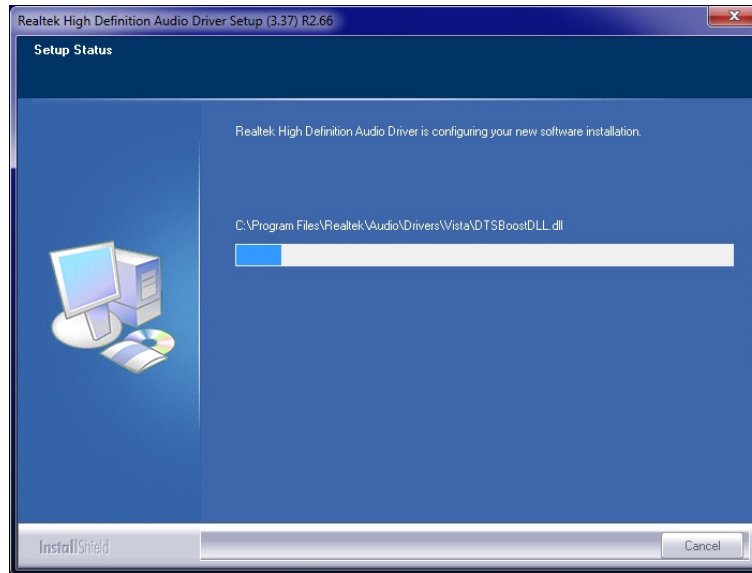

Figure 6-18: Audio Driver Software Configuration
Step 7: InstallShield starts to install the new software as shown in **Figure 6-18**.